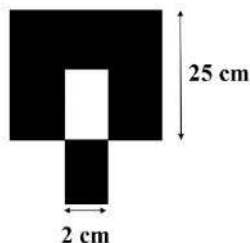

Figure 5: Finishing area
- The finishing area is followed up with a white line as shown in *Figure 5* below.